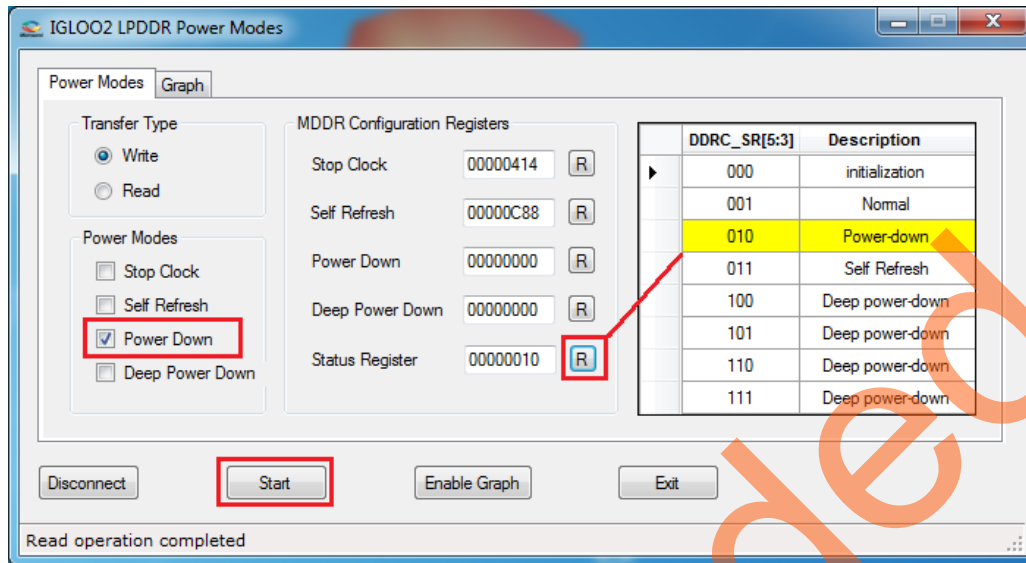

Figure 19 • Power-Down Mode
9. Click Status Register **R**. Figure 19 shows the power down mode.
10. Click **Start** as highlighted in Figure 19. It triggers the LPDDR memory write operation after exiting the power down mode.